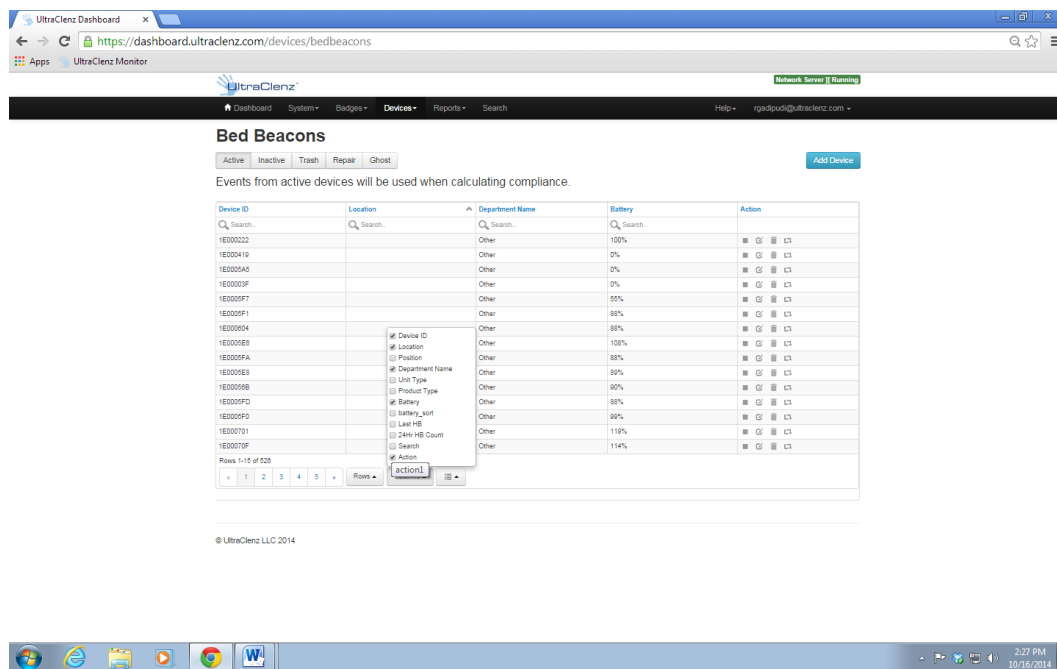

Figure 14. Device Bed Beacon Screen
6. Click on **Column** and you should see the choose selection block as shown in *Figure 14*.